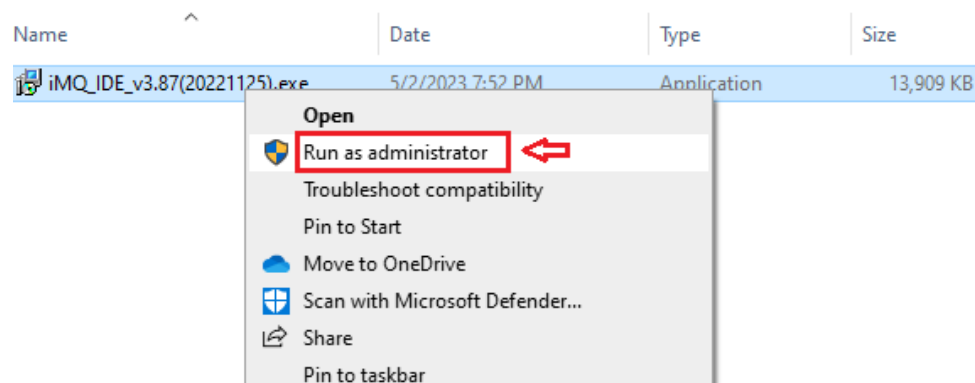

Figure 3.1
As shown in Figure 3.1, move the cursor to the IDE software installation file (the file name usually contains version and date, for example, the V3.87 version released on November 25, 2022, the installation file name is "iMQ\_IDE\_v3.87(20221125).exe") click mouse right button. Please note that if there is a message indicating that you need to execute as a system administrator, please use "Run as administrator" to install; if not, click "Open" to install.
*Note): As shown in Figure 3.1, move the cursor to the location of the "iMQ\_IDE\_V3.87(20221125).exe" installation file, and click the mouse right button. Please note that if there is a message indicating that you need to execute as a system administrator, please use "Run as administrator" to install; if not, click "Open" to install.*